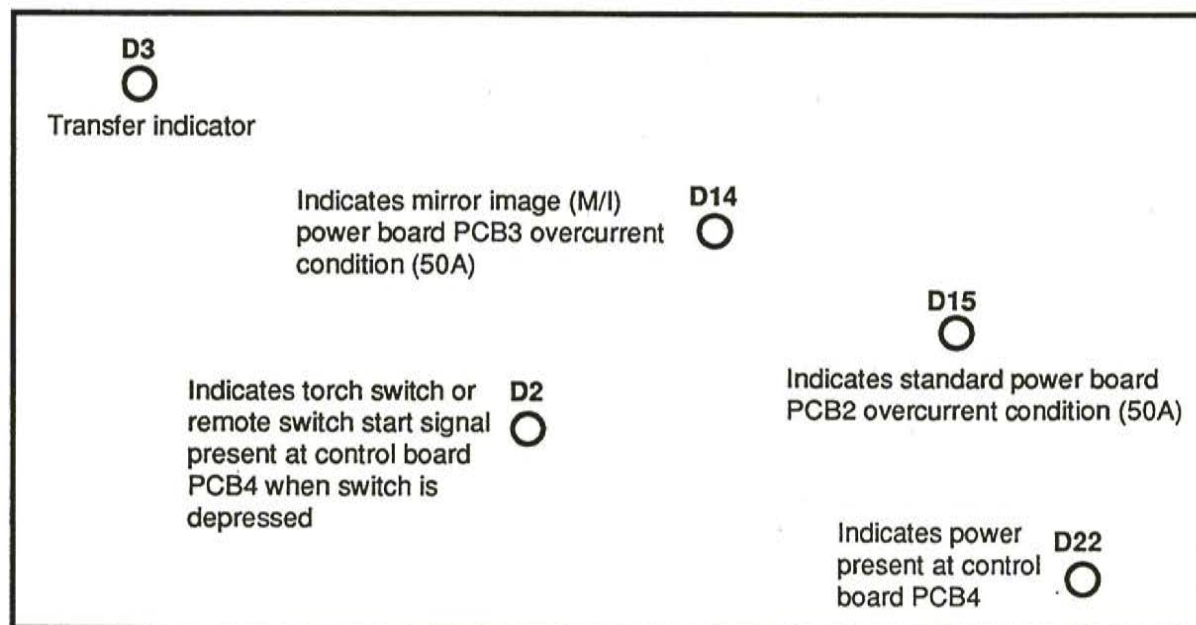

Figure 5-3 Control Board (PCB4) Indicators
8. POWER LED is lit, but nothing happens when torch switch is pressed.	<p>8.1. Missing start signal. Check that Start LED indicator D2 (see Figure 5-3) on control board PCB4 lights when torch start switch or machine torch remote switch is pressed. If D2 does not light, go to 8.2.</p> <p>8.2. Fuses F1 and/or F2 on I/O board PCB6 blown. Check fuses. Replace as required. See Figure 6-4 for location of fuses.</p> <p>8.3. Power board PCB2 or PCB3 defective Check that Overcurrent indicators D14 (PCB3-(M/I) and D15 (PCB2 - Standard) (see Figure 5-3) on control board PCB4 are off. If either indicator is lit, replace the associated power board. See Figures 6-4 and 6-5 for location of boards.</p> <p>8.4. Torch or remote switch faulty. Check continuity at TB3 between wires 33 and 34 while pressing torch start switch or remote switch. If reading indicates switch is open, replace switch. If reading indicates that switch is closed, check wiring for loose connections.</p>